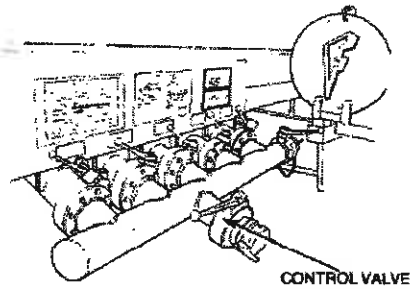

Figure 51 Manifold Control Valve and Cam-lock
- c. Remove the eight bolts, nuts and washers securing the cam-lock and the manifold control valve to the manifold flange (Figure 51).